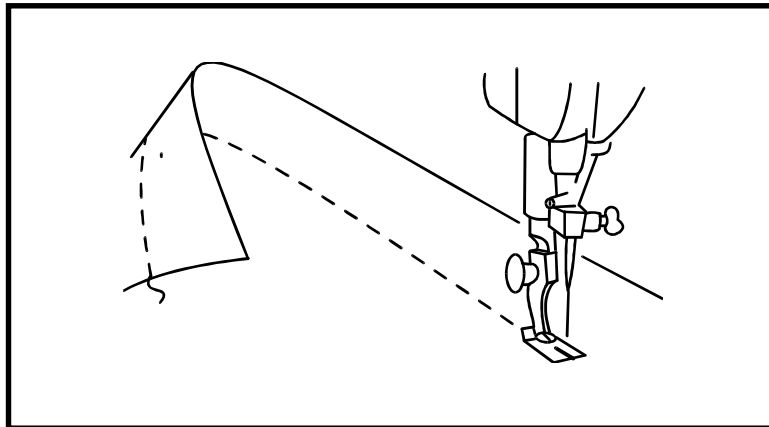
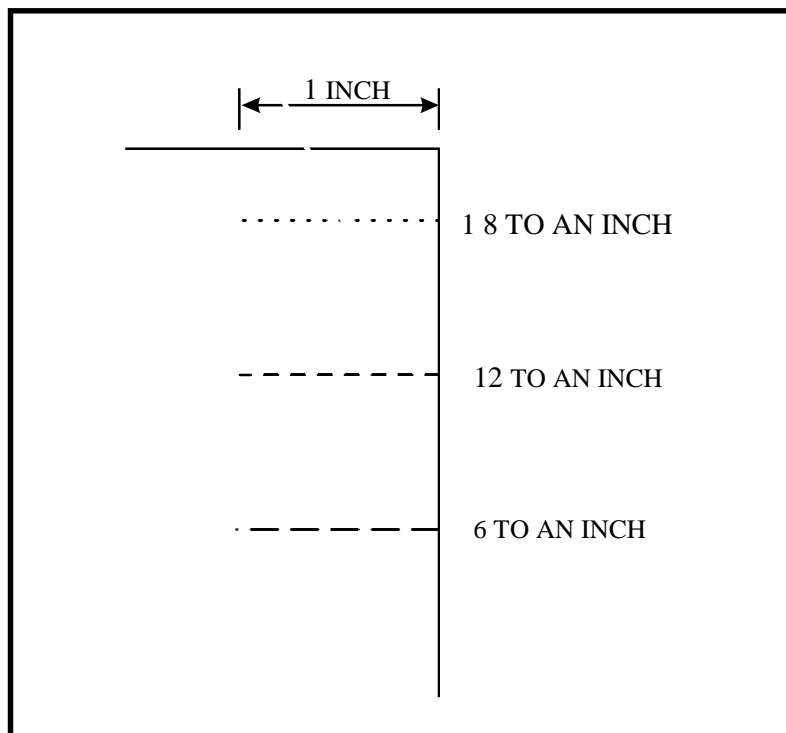

Figure 3-4. Lockstitch
Figure 3-5. Stitch length
c. **Stitch Length.** The sewing machines used by the military make only one kind of stitch, a lockstitch (Figure 3-4). This stitch is formed when a top thread and a bottom thread interlock. The length of the stitch is determined by the forward movement of the cloth. The cloth is moved by feed dogs. The more fabric the feed dogs move forward with each stitch, the longer the stitches are. Stitch length is measured by the number of stitches per inch (Figure 3-5). Generally, short stitches are used on light fabrics. Long stitches are used on heavy fabric. Long stitches are also used for machine basting. Use the same stitch length to repair an item as that used to make it. Follow directions in the appropriate technical manual to change the stitch length on each sewing machine.